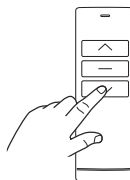

Fig. 18
3. **CLOSE / set lowest position** Hold down the **CLOSE button** (Fig. 18) until the desired lowest position is reached. Adjust the end position with the **OPEN / CLOSE buttons**.